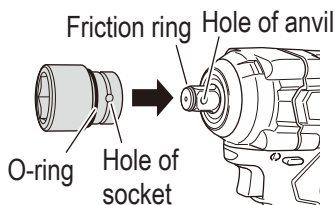

Fig. 9
- (1) Slide the O-ring out of the groove, then align the hole of the socket with the hole of the anvil and insert the anvil into the socket. (**Fig. 9**)